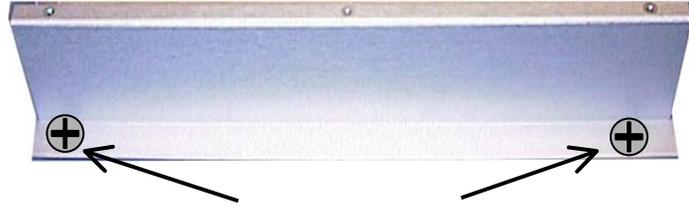

Figure 8: Securing the bottom access plate
- G. Re-attach the **BOTTOM** access plate to the main enclosure using the six (6) screws.
H. Mount the BOTTOM access plate using the bottom, round mounting holes as seen in Figure 8.